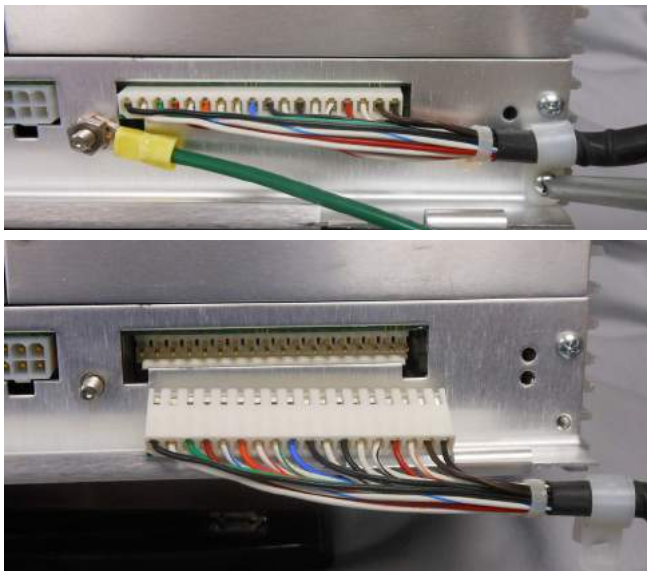

Figure 19. Removal of existing ground wire and wiring harness
5. Remove the strain relief screw (retain the screw and strain relief device) and disconnect the white connector from the side of the CL-7 control panel. See **Figure 19**.
6. Using a 3/8-inch wrench, remove the green ground wire from the side of the panel; retain the washer and nut. See **Figure 19**.